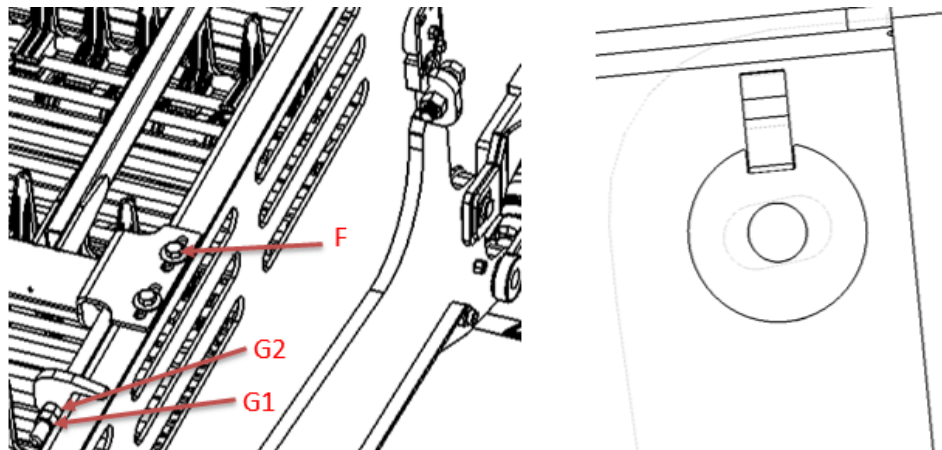

Figure 7-5: Tension System and Hole Line Up
2. Use the second 5/8” nut(G2) to line up the holes as shown in Figure 7-5 by either tightening the nut to draw the upper section of the elevator up or loosen to drop it down.